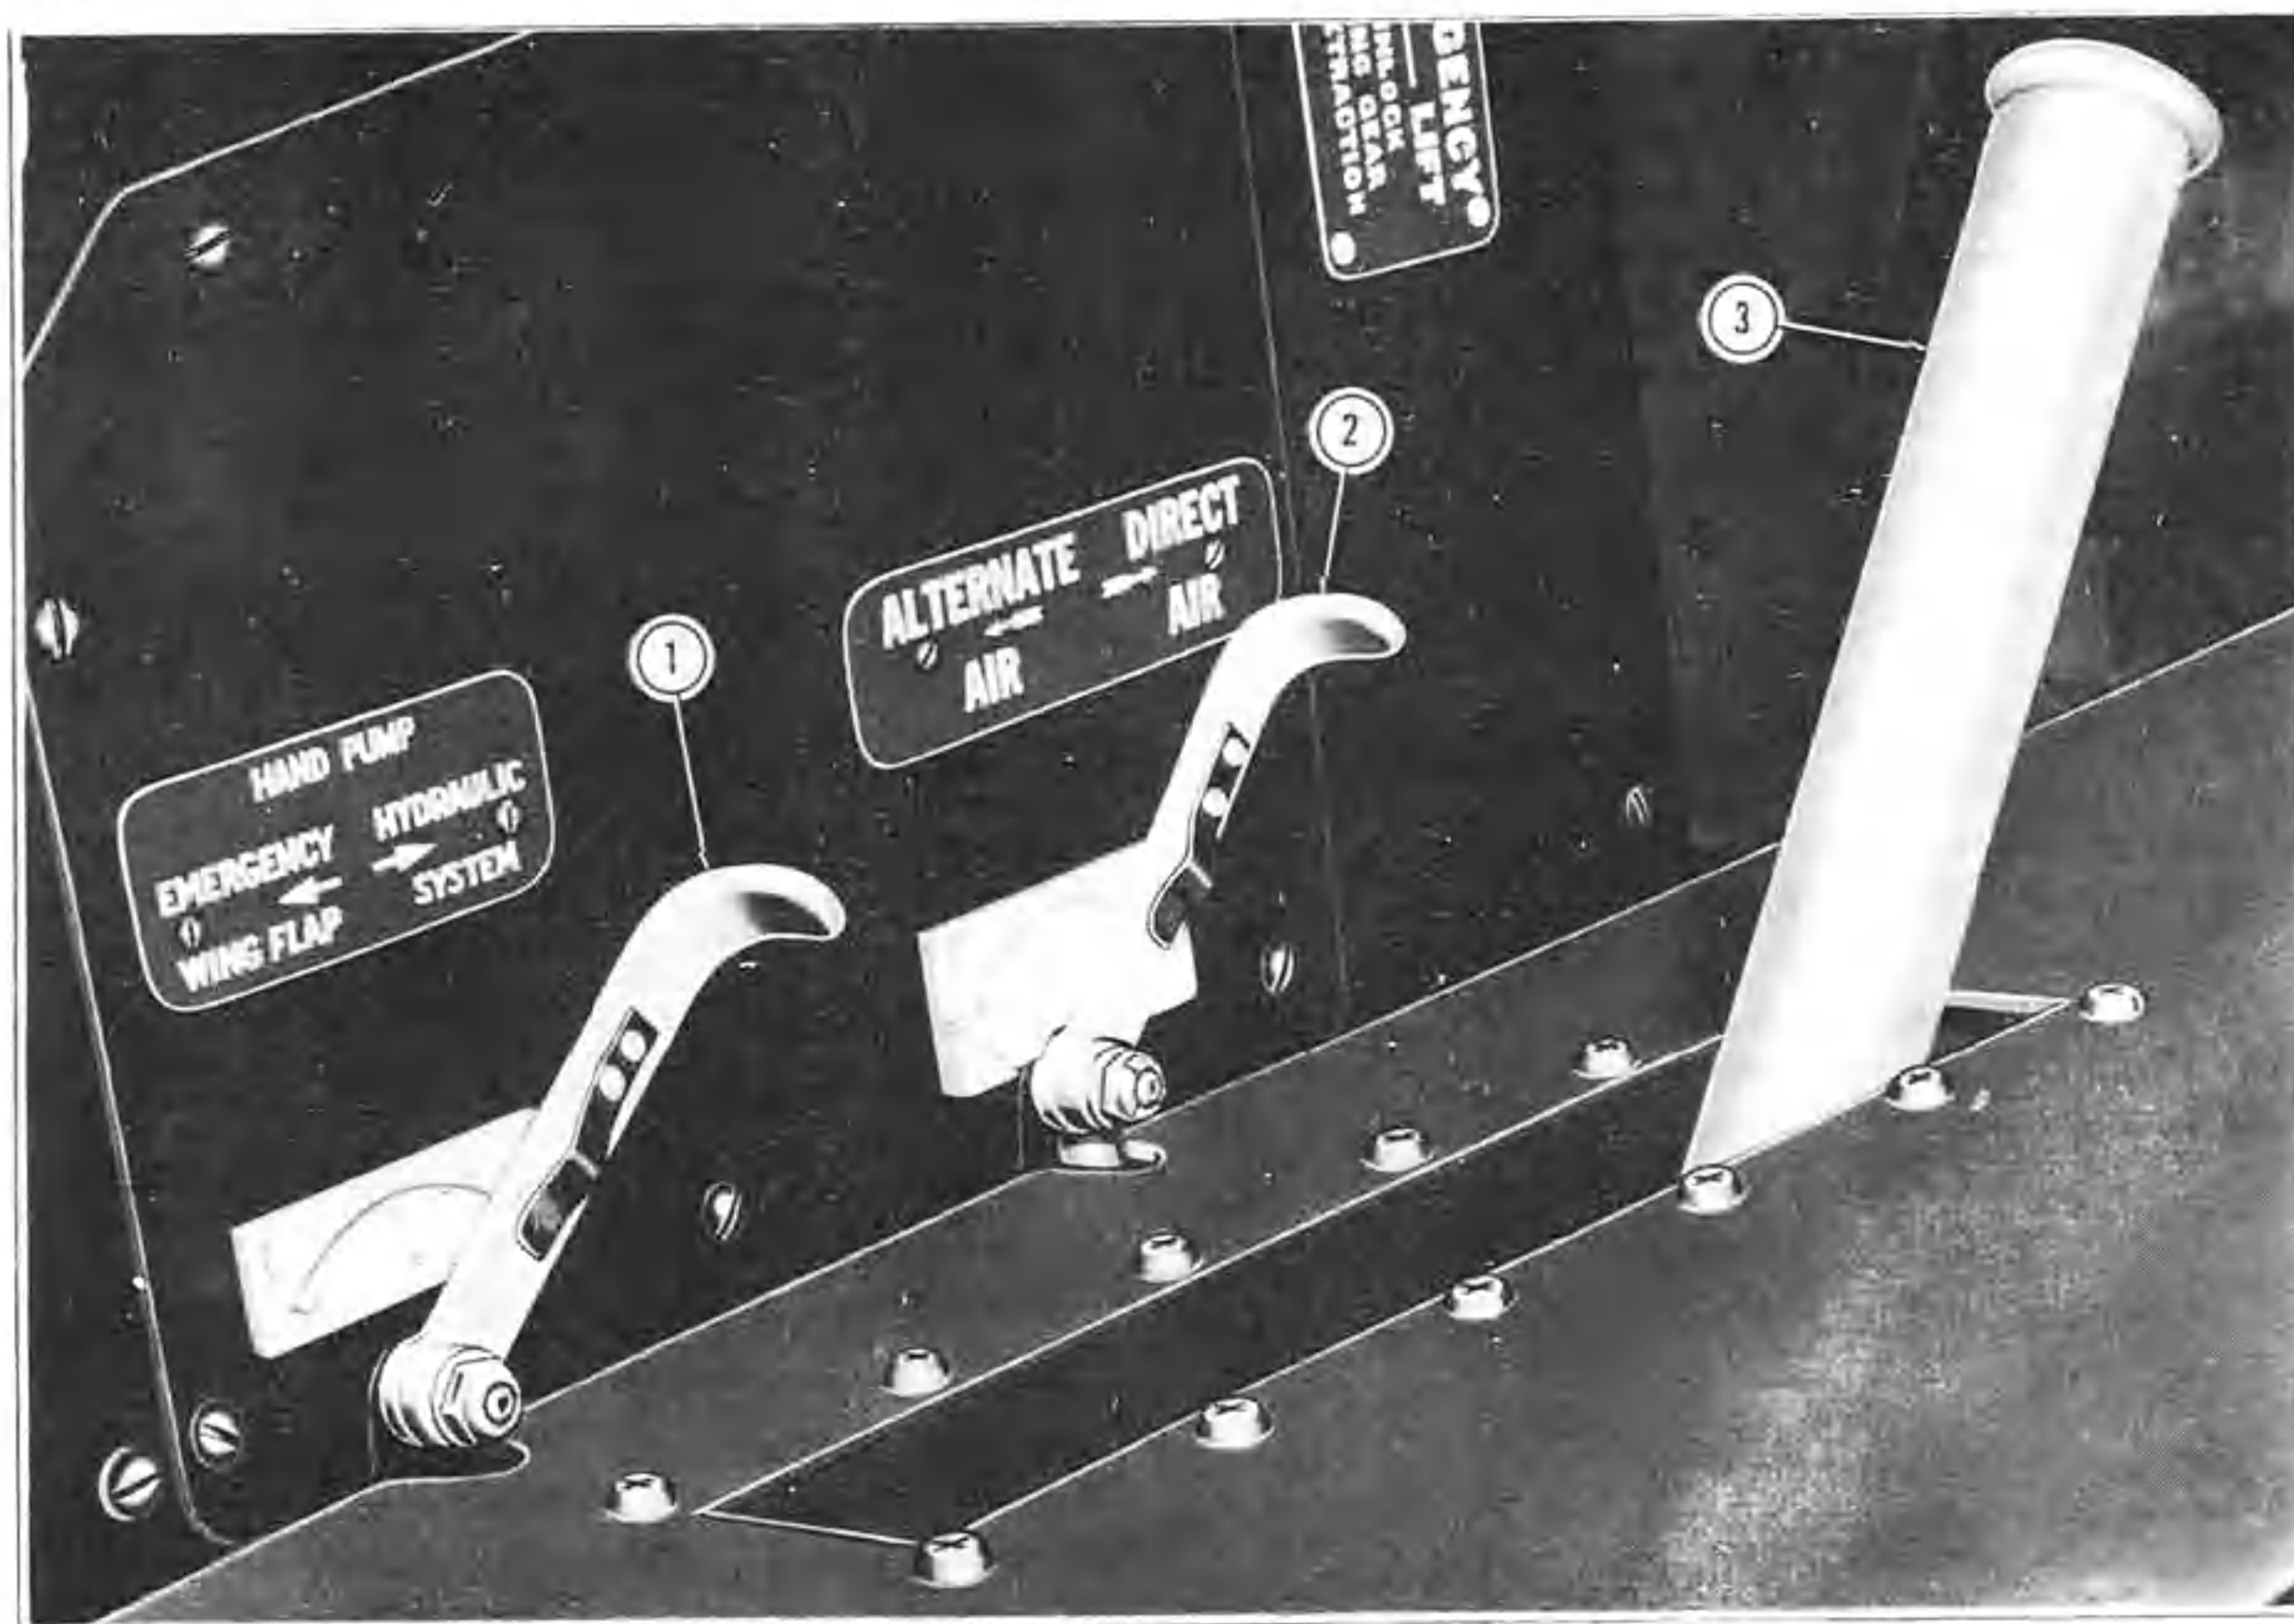

Figure 23 — Hand Pump, Selector Valve and Alternate Air Control
- (5) Supercharger control full down, low blower. (Applies only where supercharger is manually controlled. Refer to section I, paragraph 1,b,(2).)
- (6) Alternate air control — *DIRECT AIR*. (See 2, figure 23.)